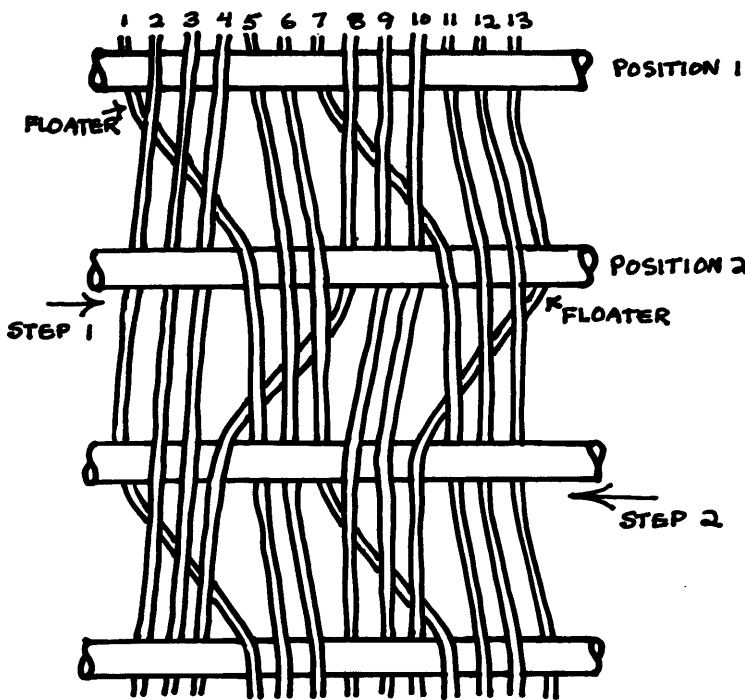
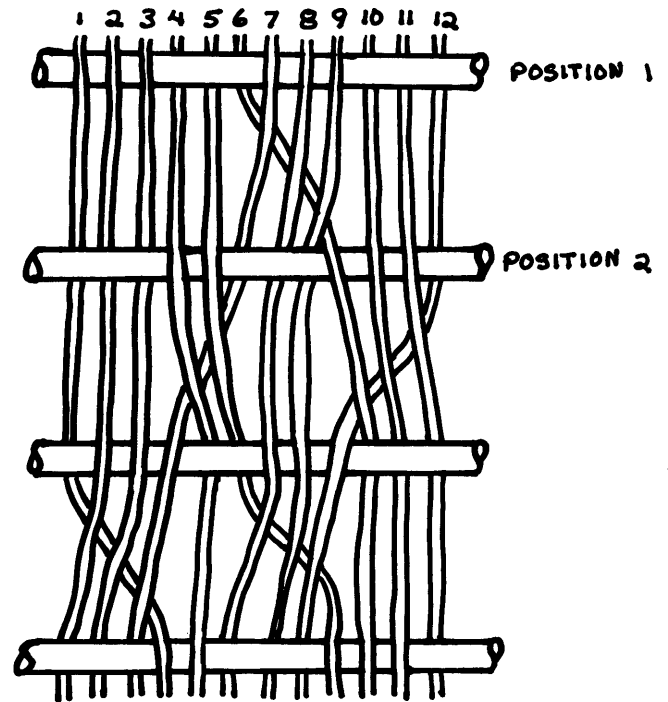
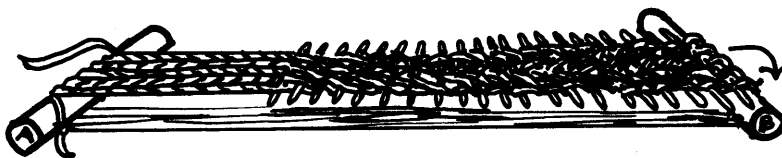

Fig. 5
Fig. 7
Fig. 6
moved away from the worker at arm's length into position 1. (Fig. 5).
Step 1. This step is done when the single floater is on the left hand side. The interlacement is done with the portion of the warp lying between the rods b and c. Holding a rod in your left hand, take the top 3 threads with the right hand and move them to the left. With the rod, pick up the first 3 bottom ends. Then move the next top 3 ends to the left, pick up the next 3 bottom ends, etc. When you reach the end of the warp, the floater thread will be at the right, under the rod. (Fig. 5). Slide a second rod in the same shed. Remove rod a, press rod b very lightly toward pole A. Press the first rod in the new shed toward yourself. The second rod is moved away in position 2 of Fig. 5.
Step 2. This step is done when the single floater is on the right hand side. Holding the rod in your right hand, take the top 3 threads in your left hand, move them to the right, and take the bottom ends onto a rod. Then move the 3 top ends to the right, and pick up 3 bottom ends, continuing this to the end of the warp. The floater is at the left under the rod. Slide a second rod in the same shed. Removing rod b, press one of the rods in the new shed toward yourself and push the other one in position 3 of Fig. 5. You are now ready to repeat step 1. Continue to repeat steps 1 and 2 until the body of the sash is completed. When rods fill the area in front of you (Fig. 6), slide the rods around pole B to the lower surface of the warp until they meet with the finished
Tabs. When the body of the sash is completed, separate the threads into groups of 12 strands, with one group of 13. The braiding of a 13 strand tab is illustrated in Fig. 5, and the braiding of a 12 strand tab in Fig. 7. The tabs should be about  $1\frac{1}{2}$  inches long.